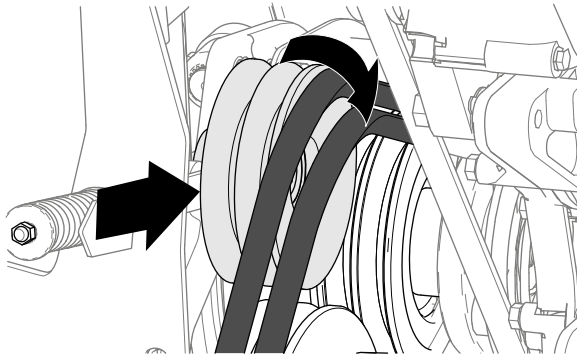

**Figure 92**
7. Move the anti-rotation tube rearward and remove it from the machine (Figure 92).
2. Align the pin of the anti-rotation tube with the hole in the PTO-clutch plate; refer to Figure 92 in Removing the PTO Belts (page 66).